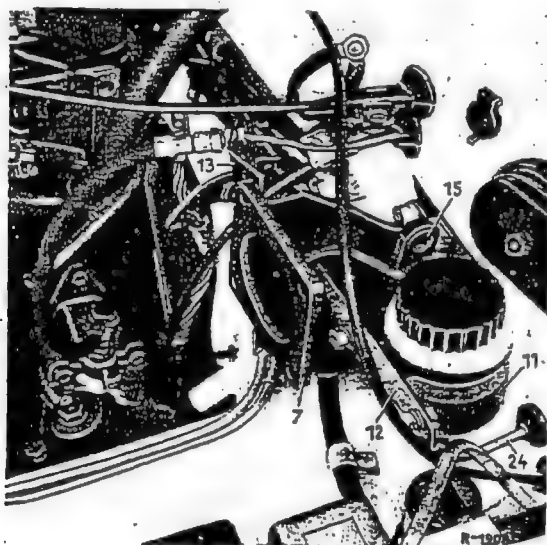

Fig. 42-16/7
8. On all models with the exception of Model 230 SL install the power brake (1) together with the intermediate flange (6) (Fig. 42-16/5).
9. On Model 230 SL attach the power brake (1) to the bearing bracket (7) (Fig. 42-16/3).
Note: On Model 230 SL also attach the bracket (13) for the oil pressure gage line and the bracket (12) for the reservoir of the supply cylinder to the bearing bracket (Fig. 42-16/3).